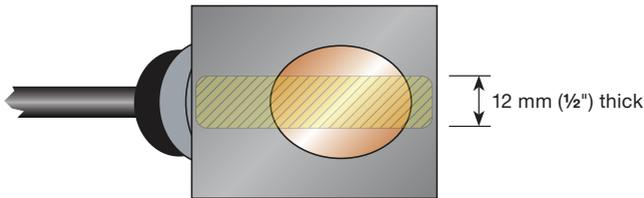

Fig. 22 Application of couplant
- 4) Place a single bead of couplant, approximately 12 mm (½") thick, on the flat face of the transducer. See *Fig. 22*.